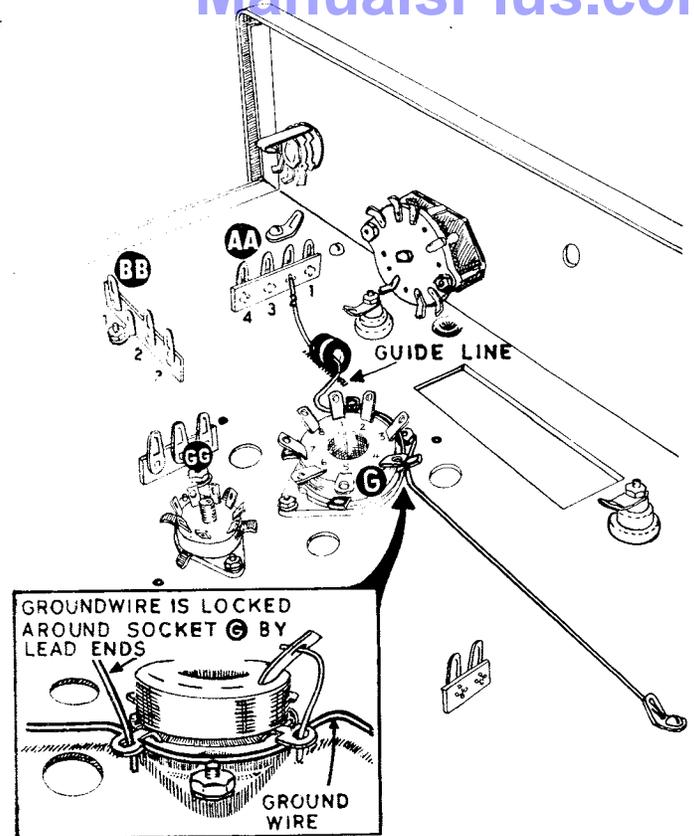
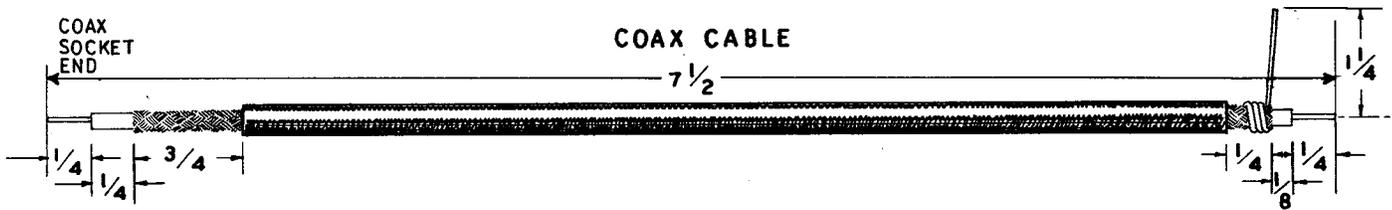

Figure 9
Figure 11
- () Cut a piece of #14 bare wire 7 1/8" long. Connect one end through the bottom hole of the grounded lug #2 on AA. See Figure 9. Slip a 5/16 rubber grommet over the free end and maintain the position of the grommet over the 1/2" mark on the chassis. Continue over and insert the wire 1/8" through the solder lug which is located between HH and II. Solder just this solder lug connection.
- () Form this RF ground lead as shown in Figure 9. Press the wire tight around socket G and under ground lugs #1 and #4. Provide room for other leads to ground to lugs #1 and #4. Allow this grounded wire and the grommet to pass directly over the 1/2" mark on the chassis.
- () Cut a piece of gray hookup wire to 7" long. Connect one end to #7 on the operation switch (S-1). Thread the other end through the 5/16" grommet, that contains the #14 wire RF ground lead and down through another 5/16" grommet next to socket G. Connect to the bottom terminal of the 2.5 MH RF choke (NS). See Pictorial 4.
- () Cut the leads on a 47 μ f (yellow-violet-black) silver mica capacitor to 1/4" long. Connect one end through the (close to socket) hole of pin #5 on socket G (NS). Connect the other end to the (close to socket) hole of pin #8 (S-2).
- () Trim the leads on a .002 μ f disc capacitor to 3/8" long. Connect one end to ground lug #1 on socket G (NS). Connect the other end to the (close to socket) hole of pin #1 (S-1).
- () Trim the leads on a .002 μ f disc capacitor to 3/8" long. Connect one end to ground lug #1 on socket G (NS). Connect the other end to the (close to socket) hole of pin 2 (S-2).
- () Solder the end of the RF ground wire just where it connects to #2 on AA. See Figure 9.
- () Trim the leads on a .001 μ f 1 kv disc ceramic capacitor to 3/8" long. Connect one end to ground lug #2 on socket G (NS). Connect the other end through the (close to socket) hole of pin #3 on socket G (NS).
- () Trim the leads on a .002 μ f disc capacitor to 3/8" long. Connect one end to ground lug #2 on socket G (NS). Connect the other end to pin #4 (hole close to socket) on socket G (S-1).
- () Trim the leads on a .002 μ f disc capacitor to 3/8" long. Connect one end to pin #6 (hole close to socket) on socket G (NS). Connect the other end to ground lug #3 (S-1).
- () Cut a piece of gray hookup wire to 3 3/4" long. Trim the insulation 1/4" off each end. Connect one end to pin #6 on socket G (S-2). Thread the other end through the 5/16 grommet and connect to #3 on AA (NS).
- () Trim the leads on the .67 Ω 1% precision resistor to 1/2" long. Connect one end to #3 on AA (NS). Connect the other end to #1 on AA (NS).
- () Cut a piece of yellow hookup wire to 4 1/2" long. Trim the insulation 1/4" off the ends. Connect one end to #1 on AA (NS). Run this lead along with the wiring cable to just beneath the key jack. Bend the lead up and connect to key jack terminal #1 (NS).
- () Cut the leads on a 47 K Ω (yellow-violet-orange) 2-watt resistor to 3/4" long. Connect one end to key jack terminal #1 (NS). Connect the other end to terminal #3 (NS). Maintain the resistor position close to the chassis front apron.
- () Trim one lead on a .002 μ f disc capacitor to 3/8" and the other 7/8" long. Connect the long end through key jack terminal #2 and #3 (NS). Connect the short end to terminal #1. Check Pictorial 2 to be sure, then solder #1, #2, and #3.
- () Prepare the coaxial cable as shown in Figure 11, using a sharp knife. In cutting the shield braid, be careful not to cut through the inner insulation. When soldering the outer braid, solder quickly to prevent melting the inner insulation. The ground lead is #20 wire.